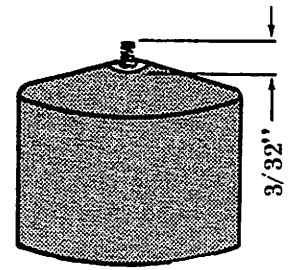

Figure 4. Carburetor Float Assembly
9. Check that float spring measures approximately $3/32$ " from top of float (not insert) to end of exposed spring. (Figure 4)